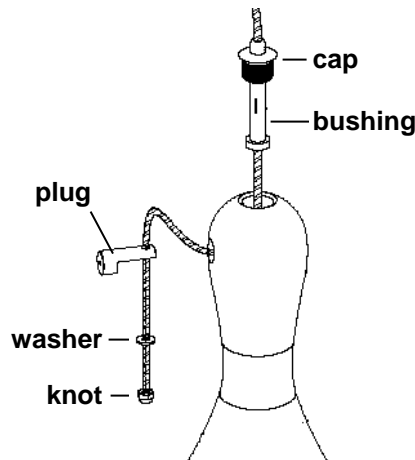

Figure 2-7, Ten Pin String Repair
5. Any worn or frayed string should be repaired or replaced as illustrated in Figure 2-7.
9. Place the plug (note its orientation in Figure 2-7) and a new washer onto the string.